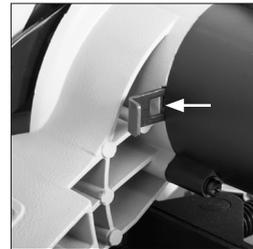

Fig. 3
- Engage the Arbor Lock by pressing the arbor lock button. (Fig. 3)